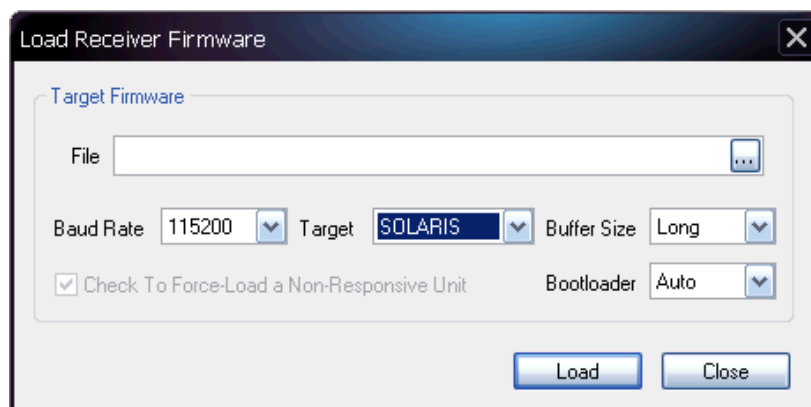

Figure 70: Load Receiver Firmware
3. Click  and the *Load Receiver Firmware* dialog box opens (see Figure 70).